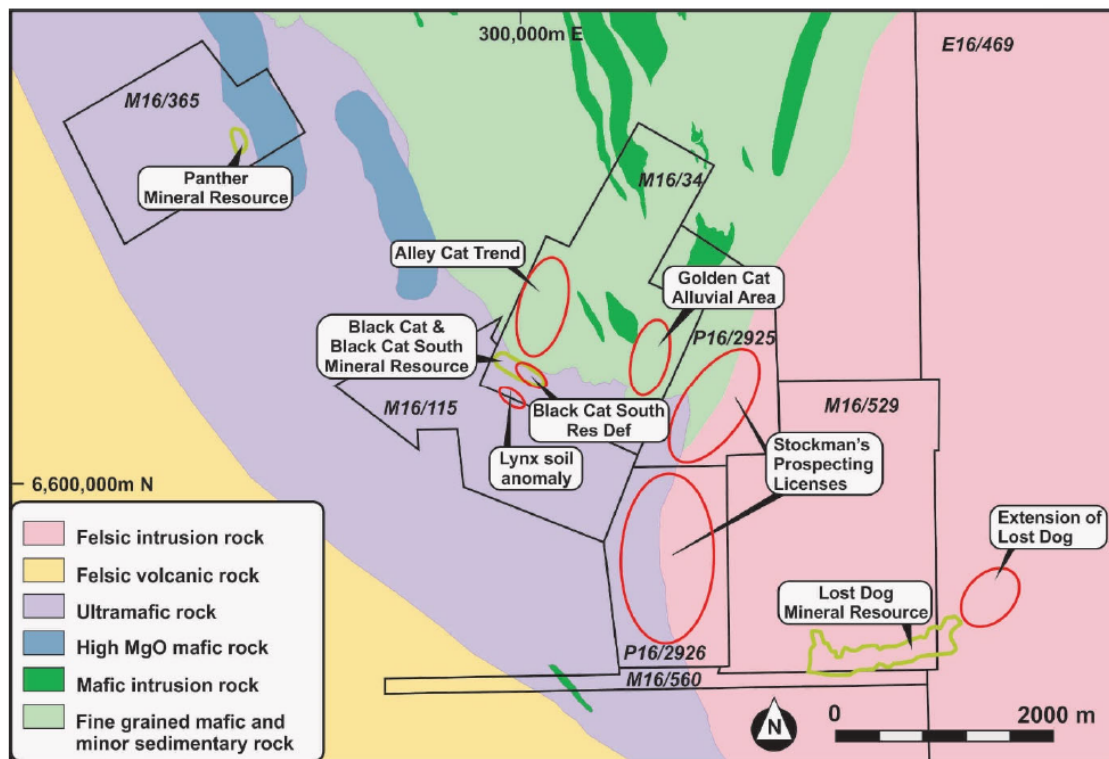

Figure 1: Locality diagram showing recent prospects drilled by Beacon Minerals
Beacon Minerals Limited (ASX: BCN) is pleased to provide an update on its recent exploration activities in the Black Cat and Lost Dog areas at the 100% owned Jaurdi Gold Project (Figure 1).
- First-pass aircore drill programme of 5,000 metres completed in November 2020 at the **Stockman's** prospect. The programme successfully targeted the intrusive Bali monzogranite contact with the Dunnsville-Ubini greenstone sequence located between the Lost Dog and Black Cat deposits (See Figure 1). Assay results are expected by early January.